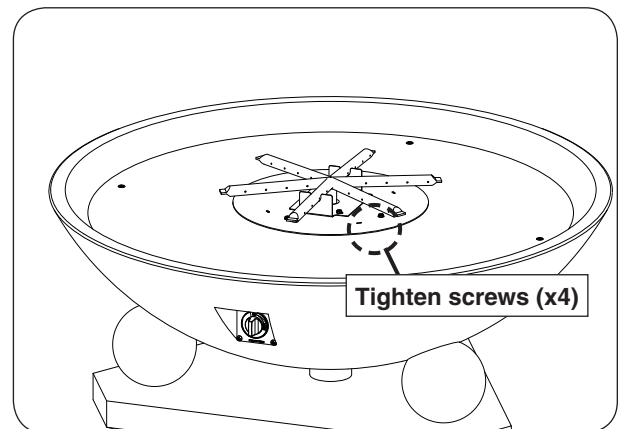

Fig. 31-2 Install burner
2. Use a  $\frac{5}{16}$ " nut driver to fasten the burner to the base (see Fig. 31-2).